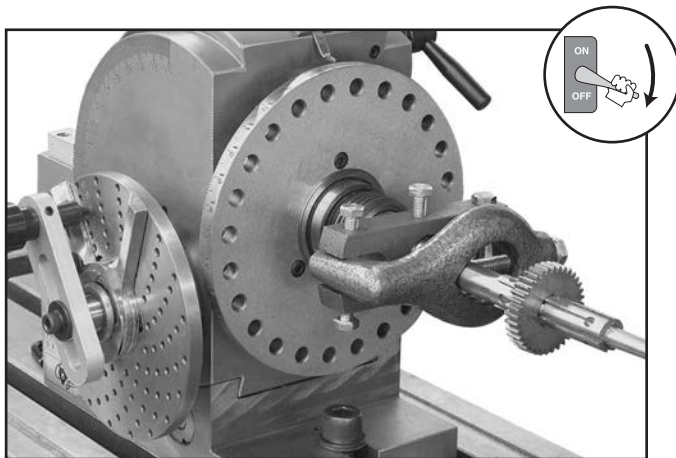

Figure 17. Workpiece installed between centers.
2. Loosen the middle hex nut on the center dog until it clears the bore, slide it onto the dead center, then re-tighten the hex bolt to secure it in place, as shown in **Figure 17**.